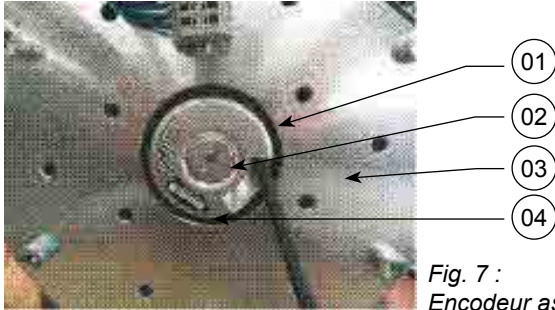
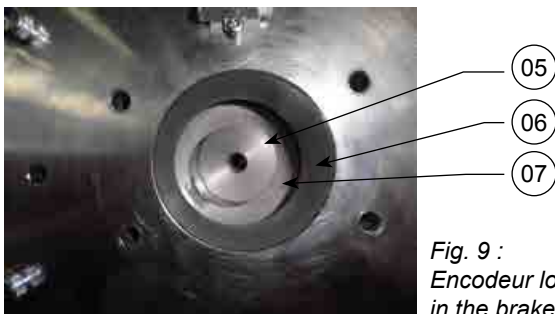

Fig. 7 :
Fig. 9 :
- Identify the encoder by means of the reference indicated on the encoder label (Fig. 7)
**Important: Do not dismantle the brake (Ref. 3 fig. 7) which is centre-mounted towards the rotor in the factory at a tolerance of 0.1 mm by using a special tool. The encoder is located in the brake with bore Ø65 (Ref. 6 fig. 9) towards the motor shaft (ref 7 fig. 9)**
- Unscrew (2 turns with spanner SW2) the fixing screw of the coupling of the encoder (Ref. 1 fig. 7) in the location of the encoder in the brake.
- Remove the plug (Ref.2 fig. 7) from the encoder (spanner SW4 or screwdriver).
- Introduce the drive sleeve of the encoder (Ref. 5 fig. 9) on the motor shaft (Ref. 7 fig. 9). Make sure its position is right by hitting it gently with a drift and a hammer.
- Introduce the encoder in its location in the brake (Ref. 6 fig. 9), then tighten the central socket screw M5x50 (dynamometric spanner SW4) at torque 5 Nm 0/+0.5 Nm. Secure the screw with removable threadlocker, 3 times at maximum.
- Tighten the small socket screw Chc M2.5 (Ref 1 fig. 7) (SW2 torque wrench or screwdriver) of the tightening screw of the coupling of the encoder to a torque of 1.25 Nm 0/-0.2 Nm.
- Retighten the encoder plug (Ref. 2 fig. 7), (SW4 spanner or screwdriver).